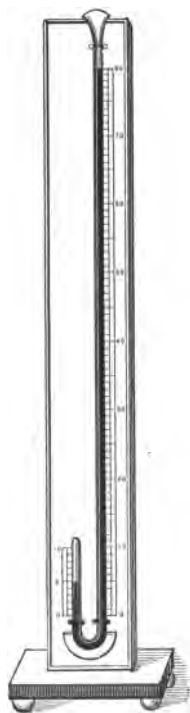

FIG. 13
75. Fig. 13 shows a "Boyle's Law tube." It is of uniform bore, with the short arm closed and the long arm open. Attach it to a support so that it will be vertical, and fasten metric rules beside it, as indicated. Pour mercury into the tube till it stands at the same level (0) in both arms. The volume of gas (air) inclosed in the short arm is now subjected to a pressure of one atmosphere. Measure the length of this air column (i.e. from the mercury surface to the closed end of the tube) and express it in centimeters. Now pour mercury into the tube till the vertical distance from one liquid surface to the other is equal to the present height of the barometer column (Ex. 74). This